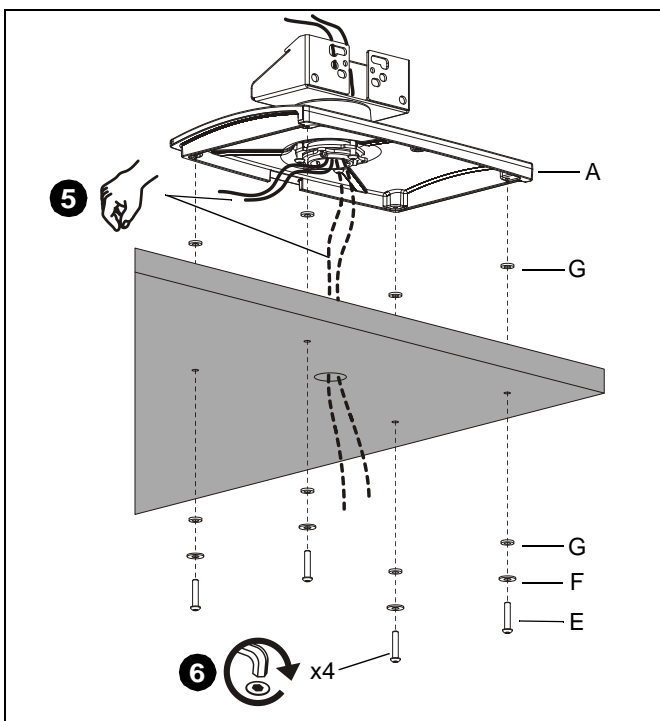

Figure 6
5. Route cables down through center pivot assembly and out through slot in rear of base, or out through optional hole in table (See Figure 6).
6. From below table, insert screw (E) through washer (F) and rubber spacer (G) into hole. Place second rubber spacer (G) on screw (E), then thread screw into stand (A) using hex key (N) (See Figure 6). Repeat for each corner. Tighten screws securely.